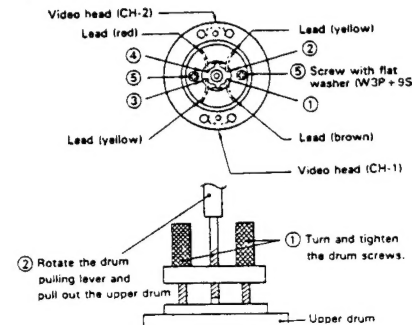

Figure 1-24.
• Replacement (Fig. 1-24)
1. Unsolder the leads ① to ④ from the video head and remove them.
2. Remove the two screws ⑤ (brass screws with washers (W3P + 9S) using a phillips screwdriver.
3. Withdraw the upper drum by pulling it up with the upper drum replacement jig. (Refer to Fig. 1-24.)
1. Set the new drum for replacement, as shown in Fig. 1-24, and position the leads properly.